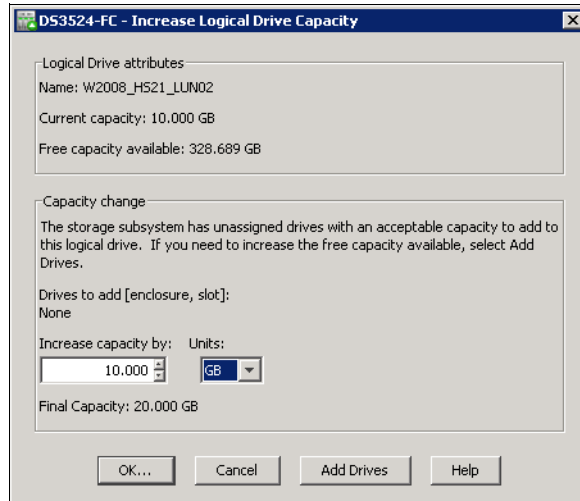

Figure 9-35 Increase Capacity - set amount
2. Click **OK** and in the Increase Logical Drive Capacity window (Figure 9-35 on page 253), enter the amount of space by which the logical drive will be enlarged.